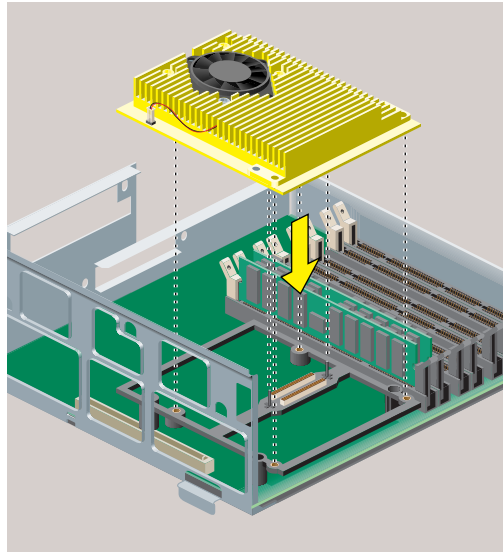

Figure 5-15 Securing the R10000 CPU Module
9. Install the replacement R10000 CPU module (Figure 5-15).